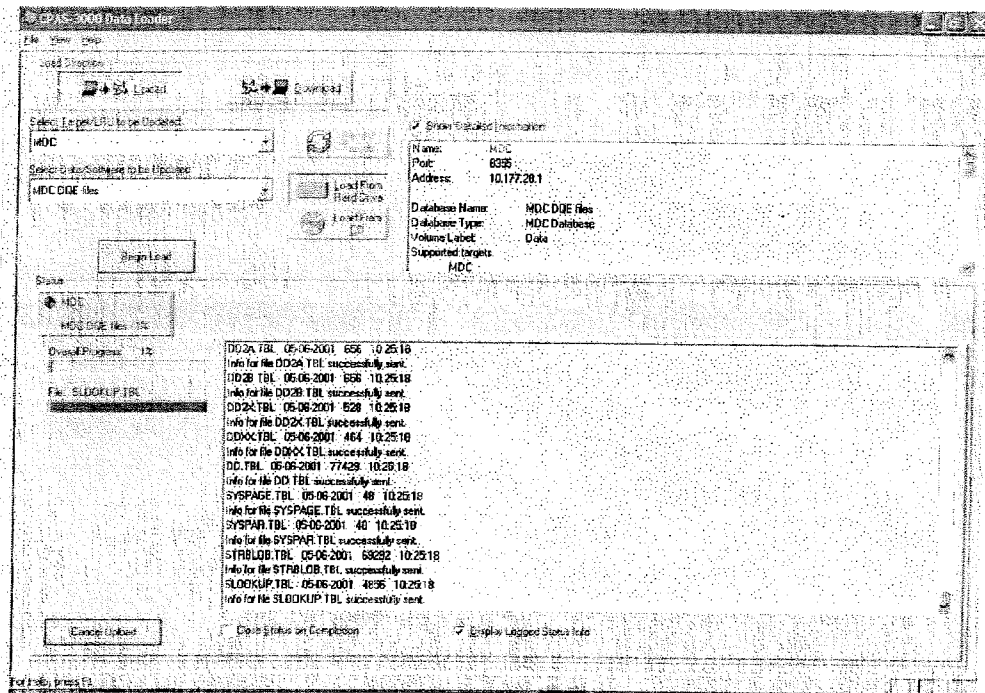

Fig. 206 - Status Window
- (6) Click on the Begin Load button. The upload is now in progress. A tab displaying the status of the load will appear in the Status area (Figure 206).
- (7) When the MDC interface used to start the load indicates the load is complete, click on the Cancel Upload button. The button text will change to "Close Status".
- (8) Click the Close Status button to close the status tab for the completed load.
- (9) Select File > Exit from the menu bar to exit the CPAS-3000 Data Loader.
- (10) Remove power from the PC. The FSU may remain powered up.
- (11) Disconnect the data load cable from the LRU and the PC.